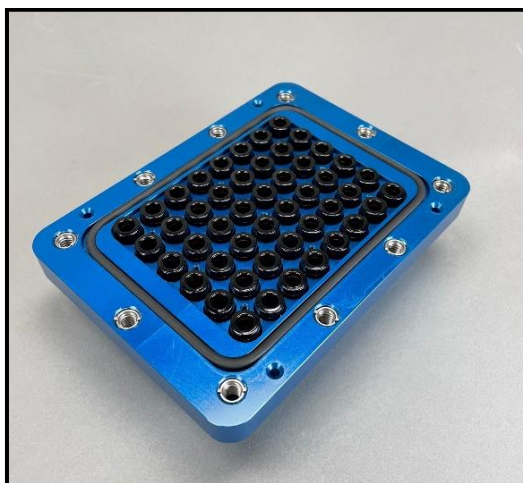

Figure 3. Reactor base with vials
1. Once black Viton O-ring is in place and all glass vials are placed in the reactor base, (see **Figure 3**) reactants, solvent and stir elements can then be added to each vial.